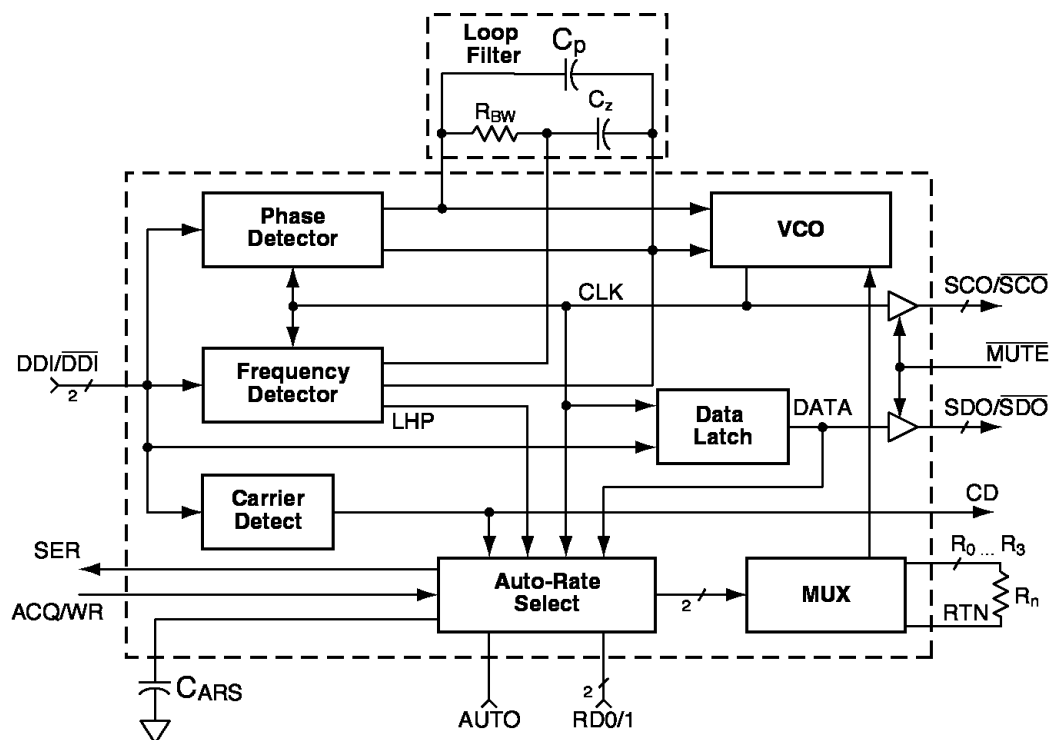

Figure 15. Functional Block Diagram
The CLC016 Data Retiming PLL, Figure 15, has three main functions: Frequency Detector (FD), Phase-Locked Loop (PLL) and Auto-Rate Select (ARS).
The external Loop Filter shown in Figure 15 is made up of passive components R_{BW} , C_Z , and C_P . This external loop filter controls the PLL dynamics and acquisition time.